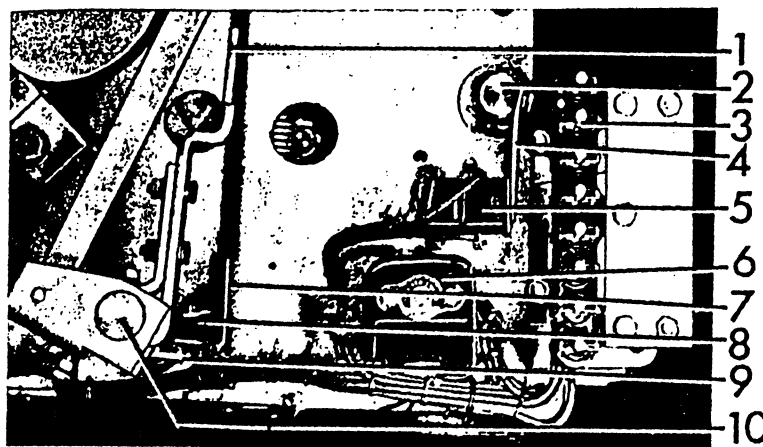

Fig. 13 (8037375) Interlock Switches
Refer to Figure 13. With the positive interlock in the reset, or normal position the clearance between the interlock switch arm (4) and the switch mounting plate should be $1/32''$ or less. This can be adjusted by bending the switch arm.